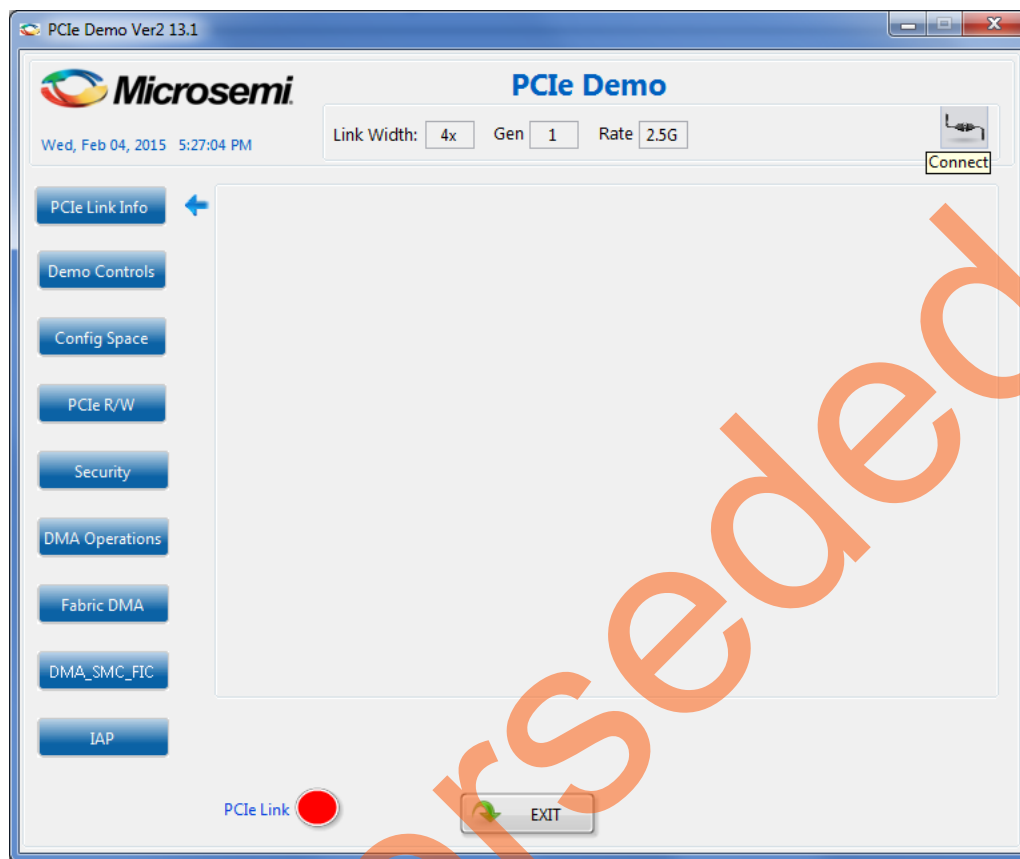

Figure 14 • PCIe Demo GUI
2. Invoke the GUI from **ALL Programs > PCIe_Demo > PCIe Demo GUI**. The GUI is displayed as shown in Figure 14.